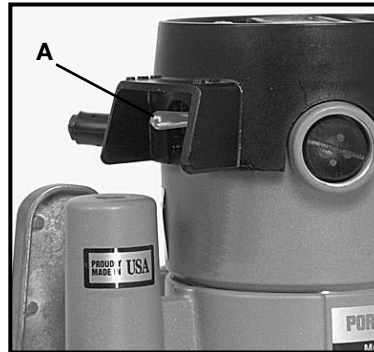

Fig. 16
The motor is started and stopped by setting the toggle switch (A) Fig. 16 to "ON" or "OFF" position.